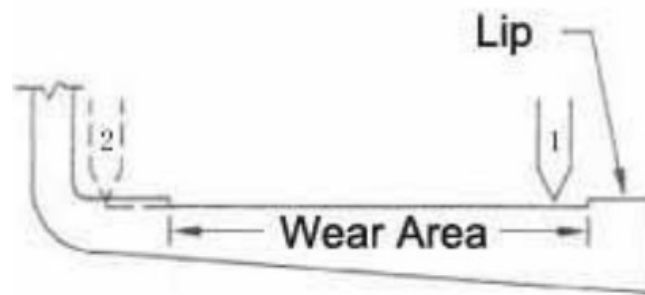

Fig.16
c. Loosen the set screws on top of the tool bar and slide the tool bar to the left until the tool bit just contacts the inside of the drum. ( Figure 16) Tighten the clamp handle.